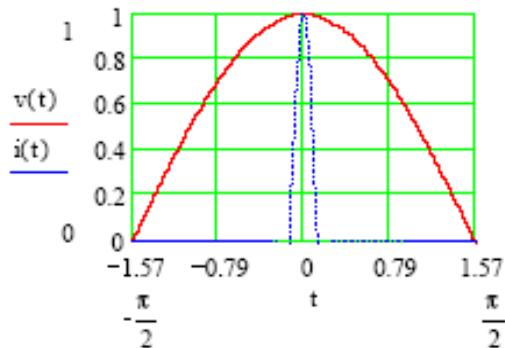
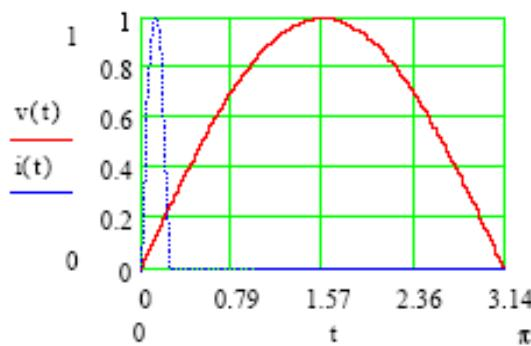

Figure 7-2 The Maximum PF Passing the Fixed CF
Figure 7-3 The Minimum PF Passing the Fixed CF
voltage waveform and the current waveform. In other words, the zero-crossing points of the voltage and current waveforms are the same as shown in Figure 7-2 and Figure 7-3.
1. Figure 7-2 shows the maximum PF when setting the CF state in CC Rectifier mode (section 7.4.1) and CS Rectifier mode (section 7.4.2).